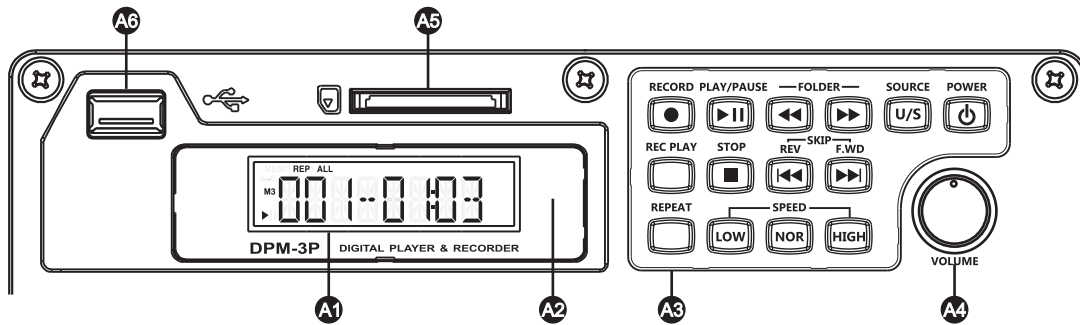

Fig. 13: Front Panel
1. Part Names. Fig. 13, 14:
Front Panel, Fig. 13